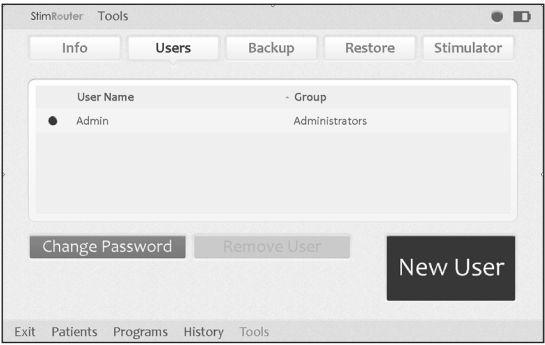

Figure 9-2: Adding a user/administrator.
1. Press "Tools" on the Menu Bar, press the Users Tab and then press the "New User" button. See Figure 9-2.